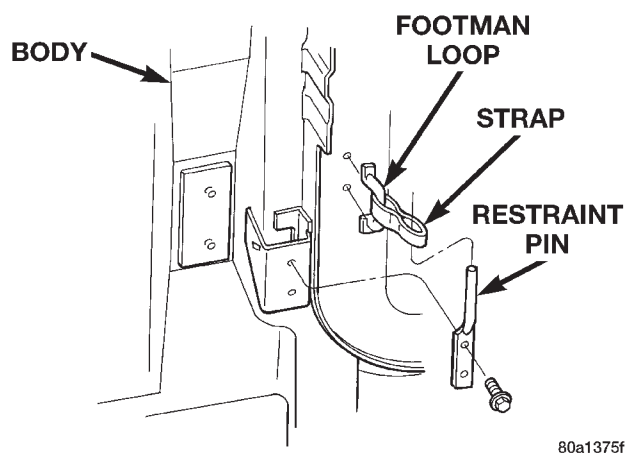

Fig. 35 Restraint Strap
- (1) Open the door.
- (2) Disconnect the door restraint strap from the pin (Fig. 35).
- (3) Remove the nuts at the door hinge pivots and lift the door from the body.